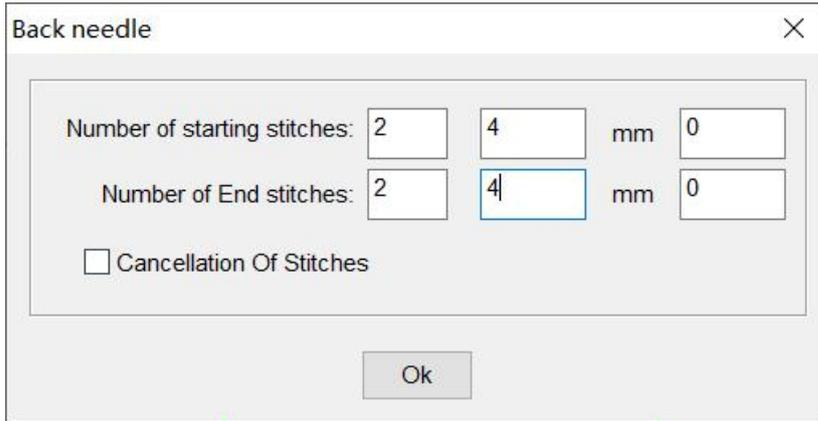

Figure 1
3. Set the starting pin number and distance (Figure 1) and click OK.